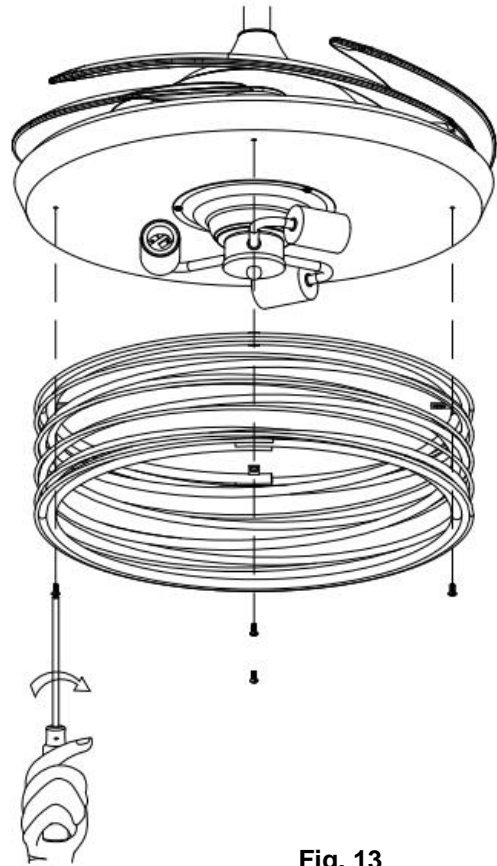

Fig. 13
5. Secure the lamp shade to the light kit bracket plate by tightening the 3 screws. Do not over-tighten. (Fig. 13)